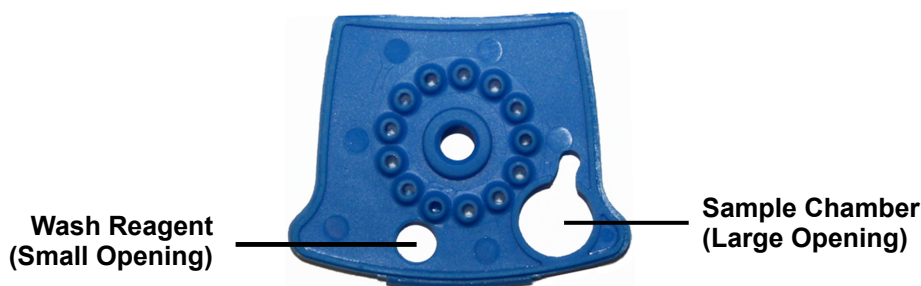

Figure 1. Xpert NPM1 Mutation Cartridge (Top View)
3. Open the cartridge by lifting the cartridge lid and transfer the entire contents of one (1) Wash Reagent ampoule to the Wash Reagent Chamber (with small opening). See Figure 1.
4. Pipette the entire contents of the prepared sample (4.5 mL) into the Sample Chamber (large opening). See Figure 1.